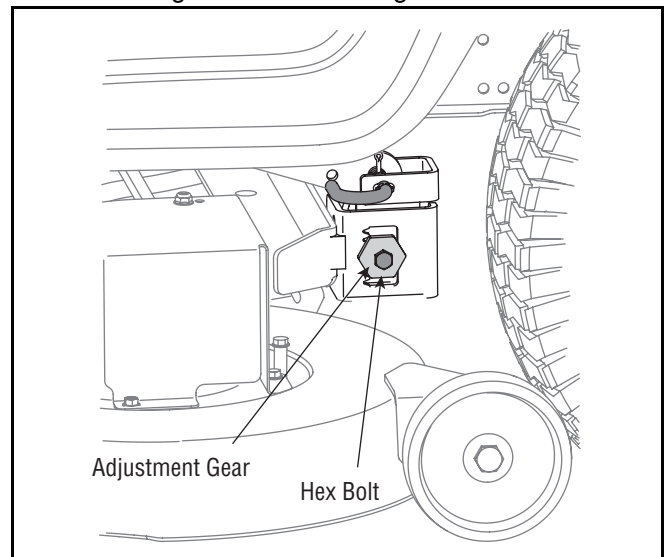

Figure 11
- Loosen, but do NOT remove, the hex bolt on the left deck hanger bracket. See Figure 11.
- Balance the deck by using a wrench to turn the adjustment gear (See Figure 11) up or down.